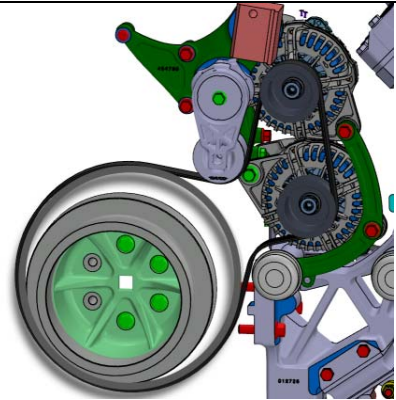

FIGURE 30
41. Reinstall the alternator belt. To do so, rotate the automatic tensioner using a ½ square drive breaker bar and install the belt as shown on FIGURE 30.